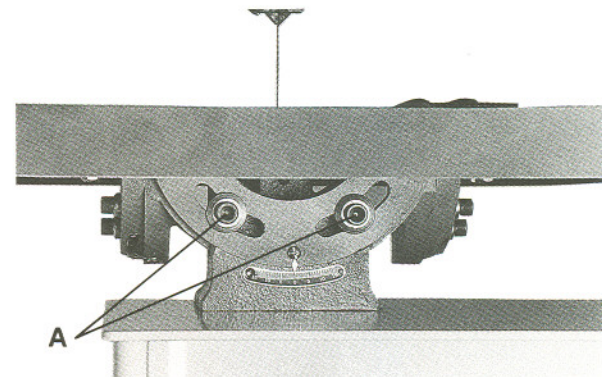
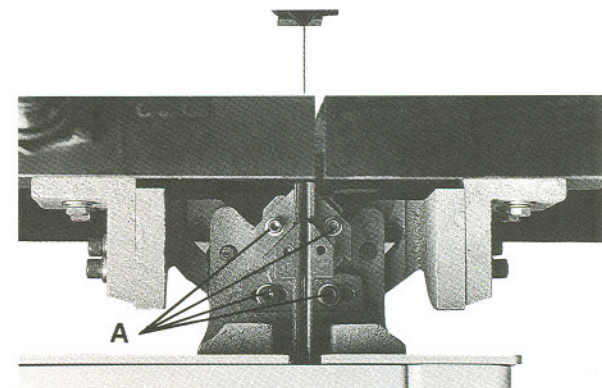

Fig. 7
Fig. 8
**Table Tilt Mechanism** - located under work table. To tilt table left or right, loosen two hex cap screws (A, Fig. 7) at rear of mechanism. To level table front to back, loosen four hex cap screws (A, Fig. 8) on either side of mechanism.